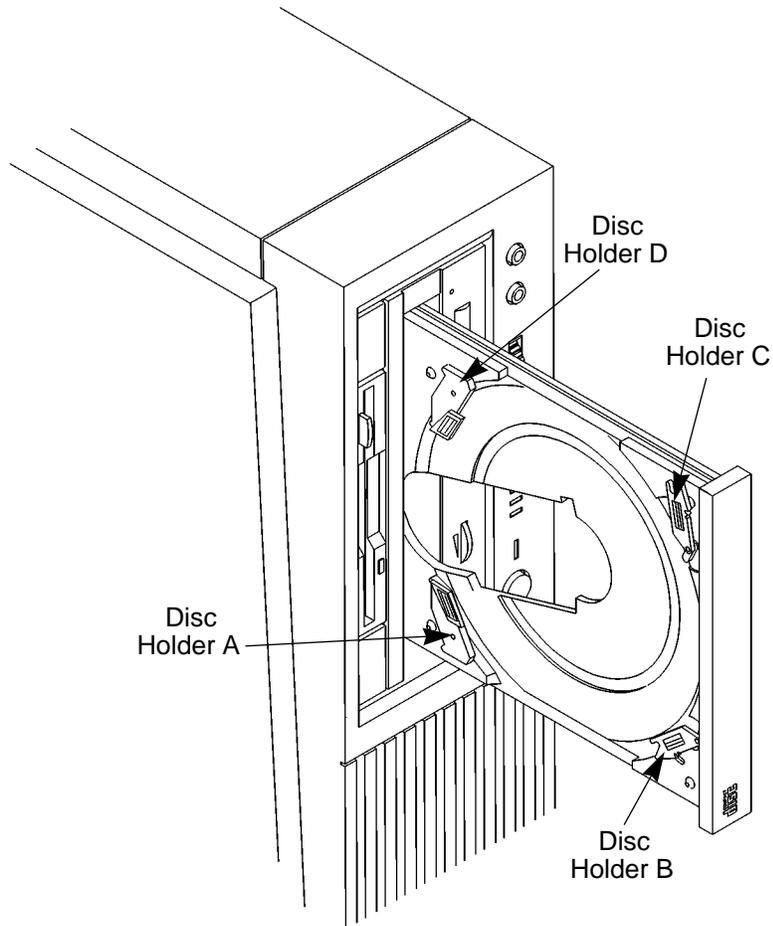

Figure 12
- 1 Make sure the three disc holders are disengaged from the disc holder retainers, as shown in Figure 12.